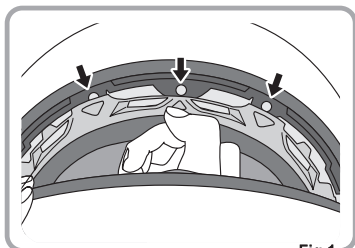

Fig.1
1. Undo the snaps at the forehead area by pulling them down. (Fig.1)